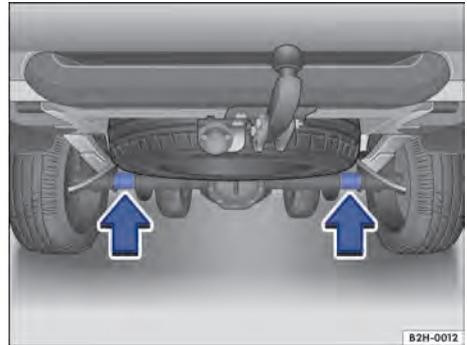

Fig. 216 The rear jacking points
The jack may be applied only at the jacking points shown → Fig. 216 (arrows).
3. Find the jacking point at the front → Fig. 214 or rear → Fig. 216 which is closest to the wheel that is being changed.